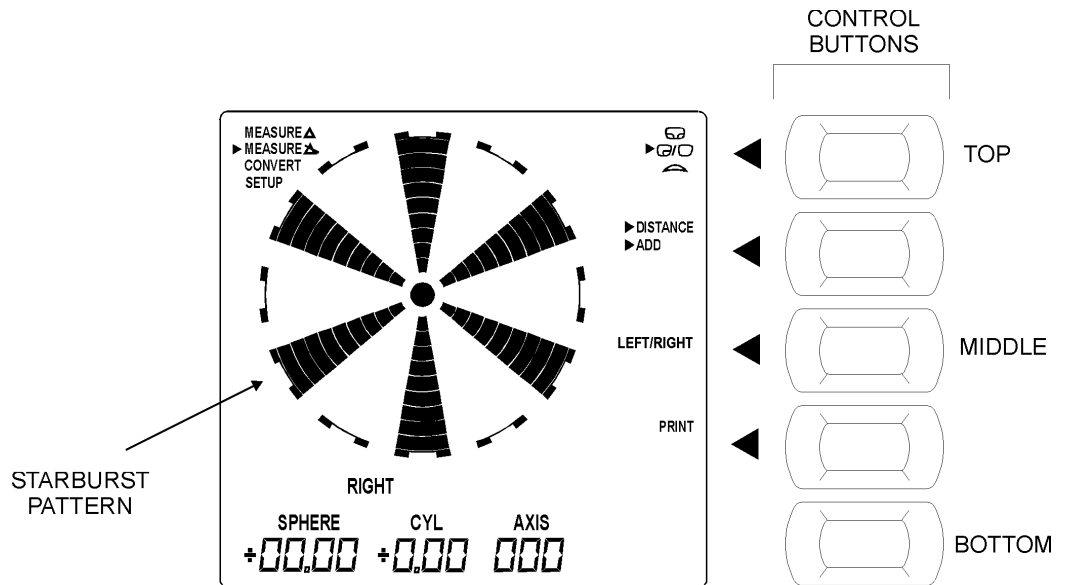

Figure 2 - Starburst
2. When the LensChek starts to operate, a self-calibration procedure is initiated. This procedure begins with a counterclockwise revolving pattern that counts down from 19 to zero and ends in a "starburst" pattern. When the "Starburst" pattern is displayed, the LensChek has finished the self-calibration procedure and is ready for use. To manually initiate a self-calibration procedure, simultaneously depress the top (blue) and middle (blue) control buttons. Refer to Figure 2 for an illustration of a "Starburst" pattern and the location of the top and middle control buttons.